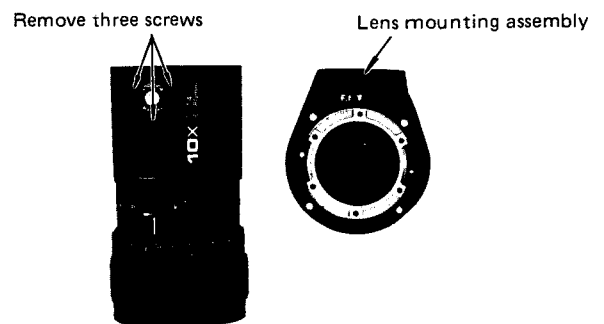

Fig. 4-6
- o Remove three screws which hold the IRIS AUTO/MANUAL switch assembly and remove the IRIS AUTO/MANUAL switch assembly. (Fig. 4-6)